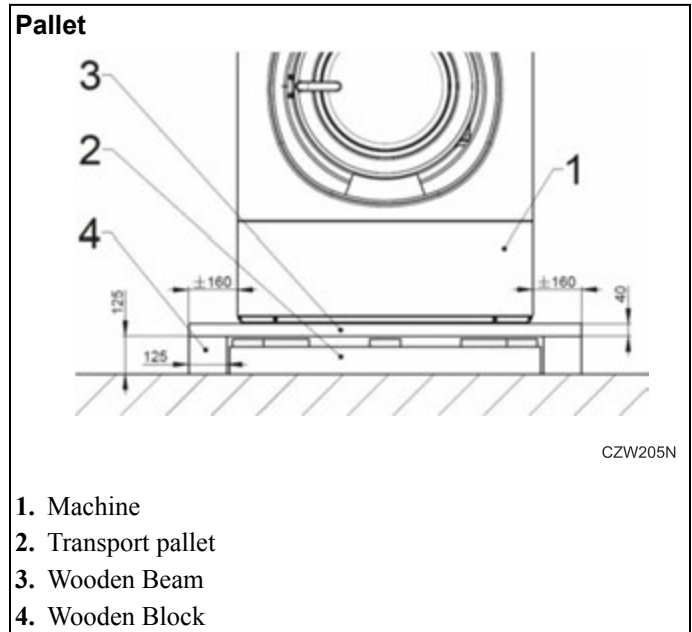

Figure 12
Move the machine from the storage to the install area with a low-level pallet jack. The machine (1) is delivered bolted onto the transport pallet (2) and packed in shrink-wrap foil or box. Below handling should be executed by 2 persons. Needed materials: Refer to *Figure 12*.
- Length wooden beam = machine width (refer to *General Specifications*) + 2 pcs beams (3) length 160 mm
- 4 pcs Wooden blocks (4) - height: 125 mm [4.92 in] ; width: minimal 125 mm [4.92 in] ; Length: minimal 150 mm [5.91 in]
18. After levelling is completed, tighten the counter nut (2) securely against machine base. Refer to *Figure 12*.